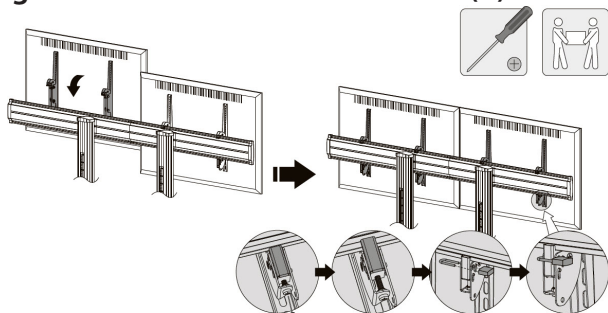

Figure 13
1. Select the first **TV** to be mounted and loosen the 2 **Screws**, located at the bottom of the **TV Mounting Brackets (G+H)**, using a **Phillips Head Screwdriver**. (Figure 13)